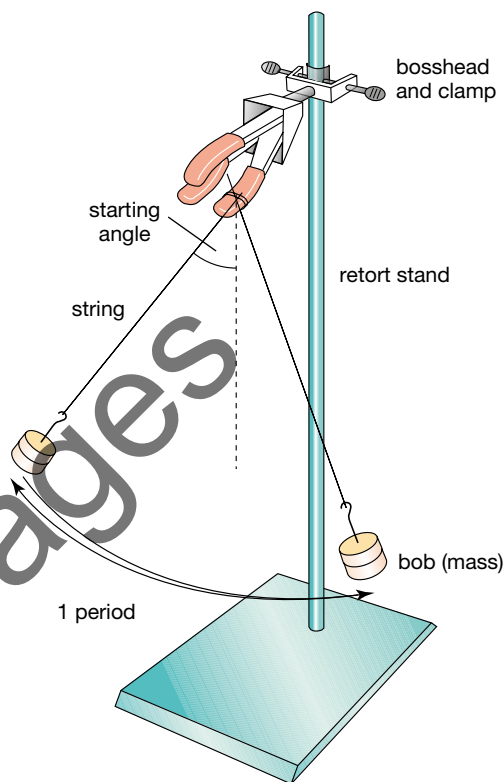

FIGURE 1.4.13
- 1 Your task is to design and report on an experiment that tests how starting angle or mass affects the period of a pendulum (Figure 1.4.13).